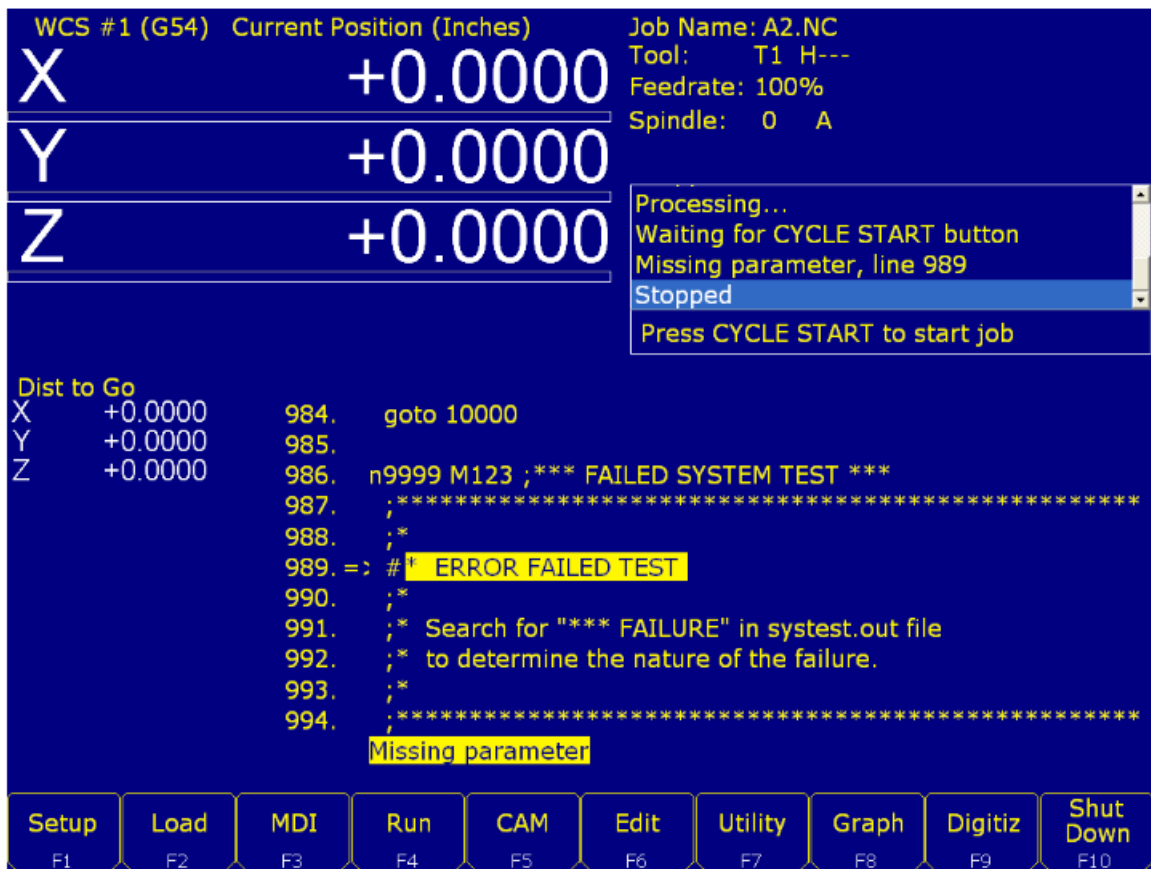

Figure 15.4
4. If the System Test fails at any time while testing, you will see “Missing parameter, line 989” on the Config Screen. To fix this, go back to the main screen, where you will see the following screen (see Figure 15.4). Load the `systest.out` file located in the CNC software directory and press **F6 – Edit** to see exactly what failed (see Figure 15.5).